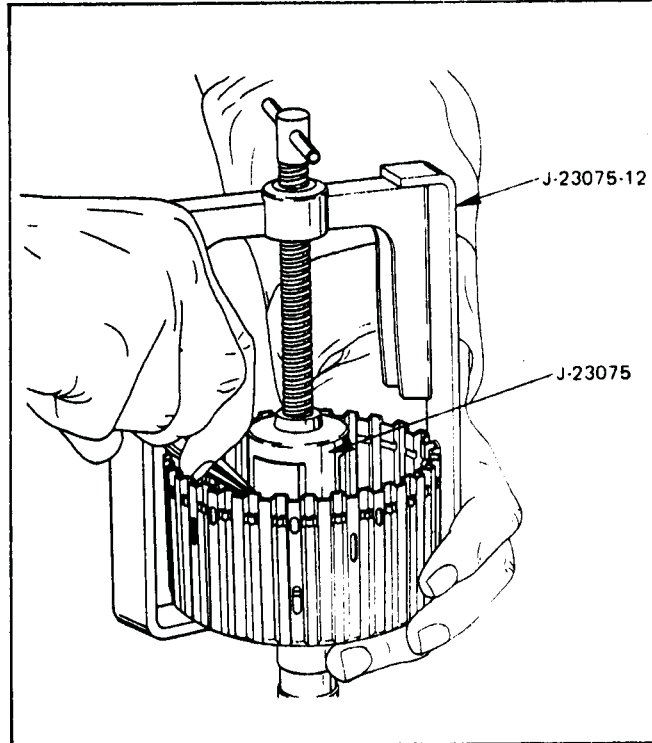

Figure 75
9. Compress the piston return springs using the spring compressor shown in Figure 75, and install snap ring.